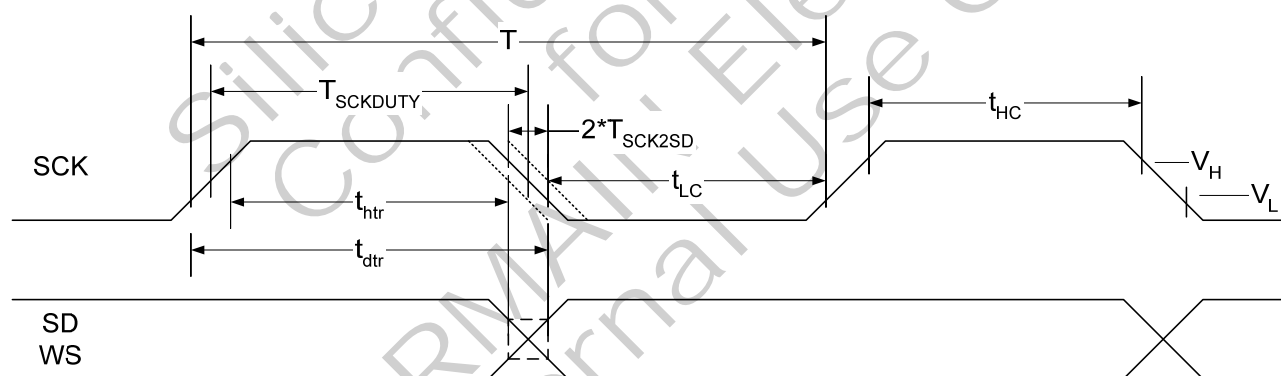

Figure 17. I2S Output Timings
- Refer to Figure 17. Meets timings in Philips I2S Specification.